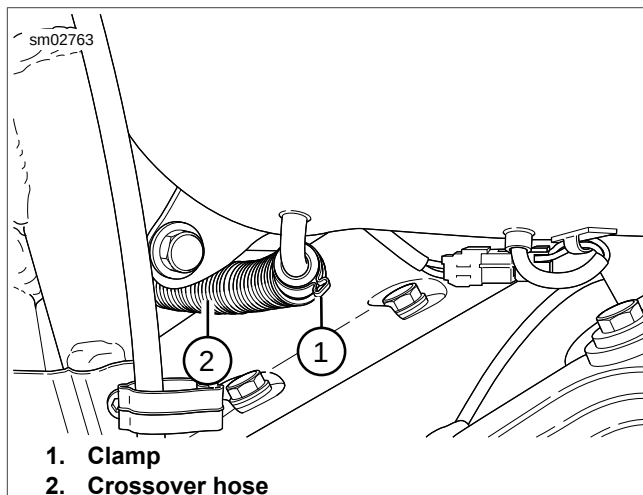

Figure 4-33. Crossover Hose
- b. See Figure 4-33. Cut clamp (1) from one end of crossover hose (2). Quickly replace crossover hose on fuel tank fitting with open end of short hose while directing flow of gasoline from free end of crossover hose into suitable container.